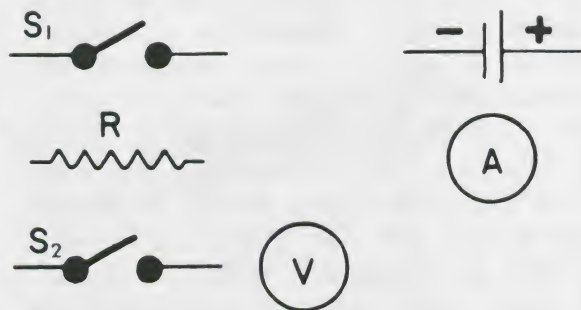

Figure 4.
A *schematic diagram*, or *schematic*, is a technician's "shorthand" which shows how to construct a given electrical circuit. Once you can recognize the schematic symbols (some are shown in Table I and Figure 4), you should be able to visualize how an actual circuit will look by studying its schematic. The value of a particular circuit element may be indicated either in a general way ( $R \Omega$ ) or by a specific number (10 V).
2. Figure 4 shows the components of another circuit which has been wired for you. Examine this circuit and draw the appropriate lines in Figure 4 to complete the circuit diagram. Close switch  $S_1$ . On your data sheet record the current with  $S_2$  open, and record both current and voltage with  $S_2$  closed. When you are finished, open  $S_1$ . Record the value of  $R$ . Later in the module you will see that this provides an example of the way a meter affects the circuit to which it is connected.